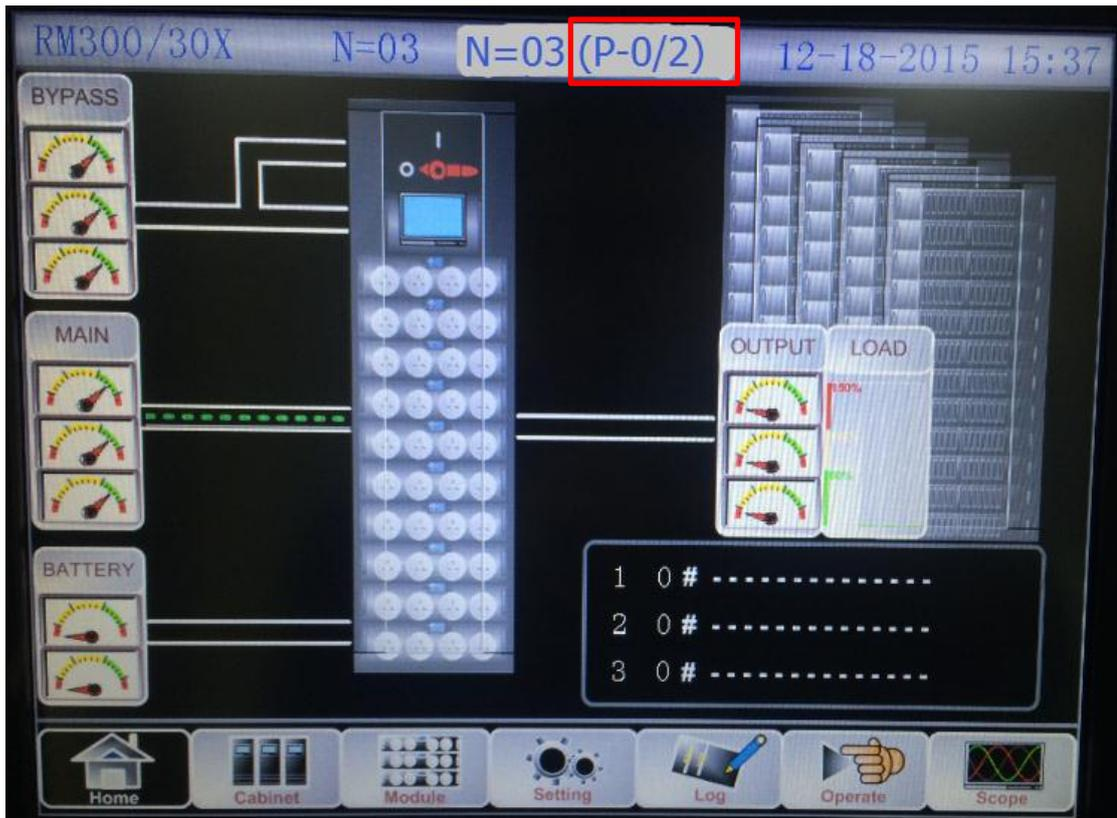

Figure 10 Parallel LCD
7. Reset the cabinet, (shut down this cabinet, then power on) and press EPO. Ensure the settings displayed on LCD are what we needed, then shut down this cabinet, as is shown in figure 10.